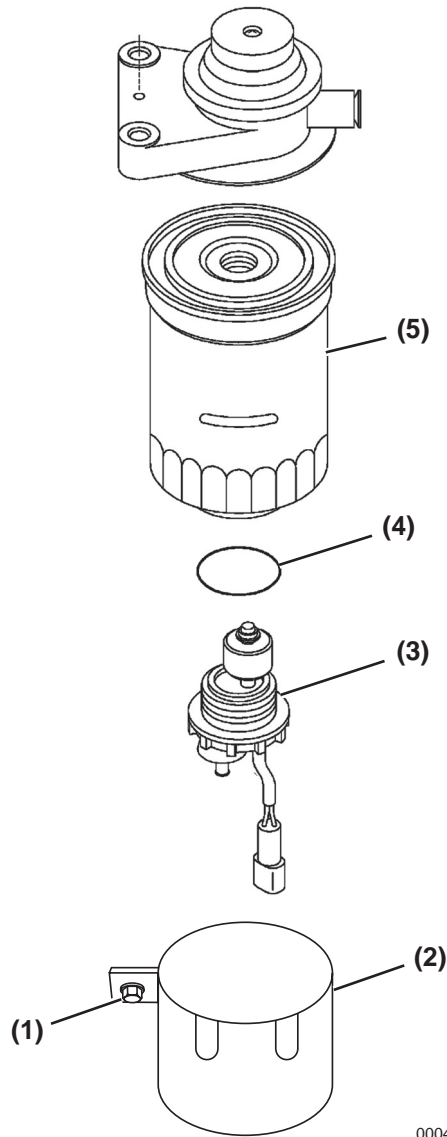

Figure 4-3
2. Remove the two mounting screws (Figure 4-3, (1)) and the housing (Figure 4-3, (2)).
5. Remove the alarm switch (Figure 4-3, (3)) with a wrench.
6. Remove the filter element (Figure 4-3, (5)) with a filter wrench.